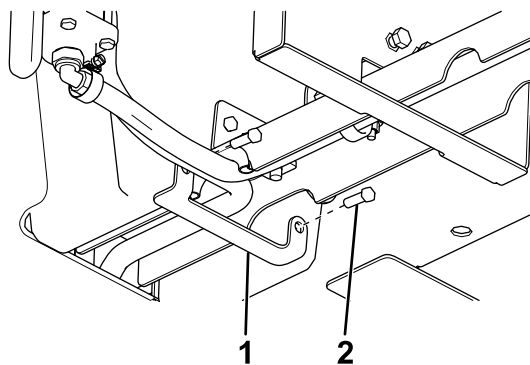

Figure 37
- For Forge 2.0 spreaders, continue to step 11. For VBX spreaders, secure the hose retainer to the spreader leg using 2 lag bolts (5/16 inch) as shown in Figure 37.